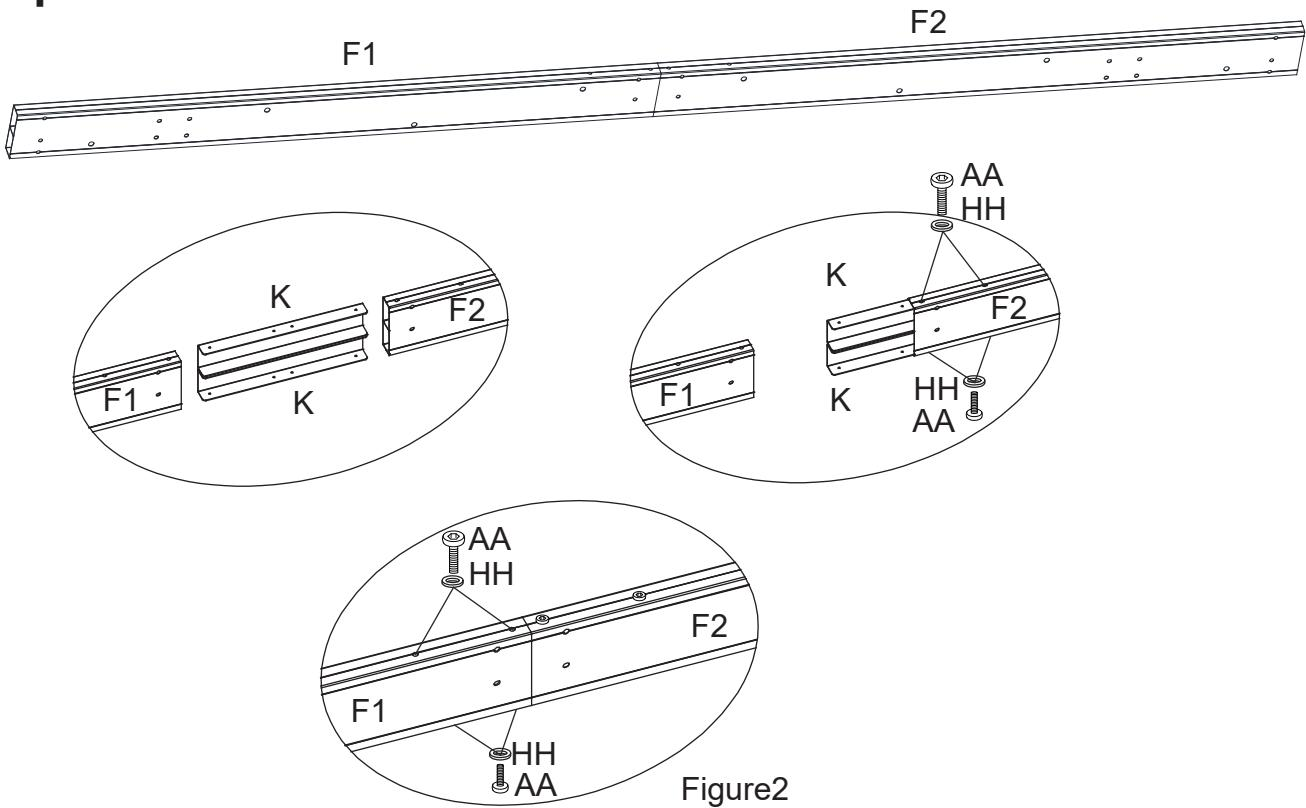

Figure2
2. Slide the Connector (K) into the Rear Lintel (F1) and Rear Lintel (F2) by using Bolts (AA) and Washer (HH). See Figure 2.